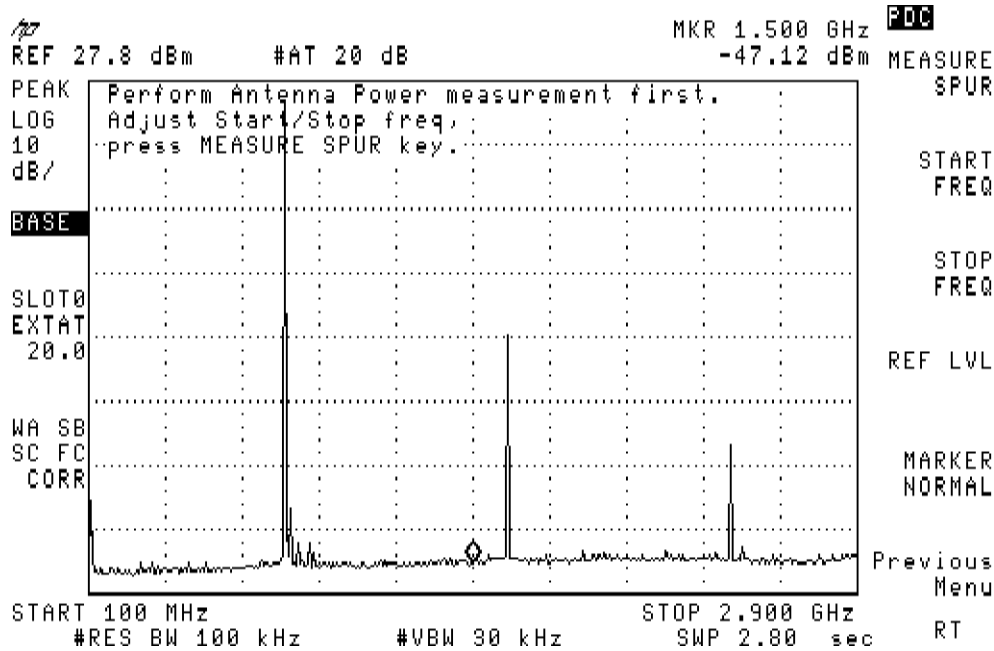

Figure 4-27. Spurious Emission Procedure
3. Press **SPURIOUS EMISSION**. The personality will set the start and stop frequencies and set the input attenuator to a value determined by the antenna power. See Figure 4-27.